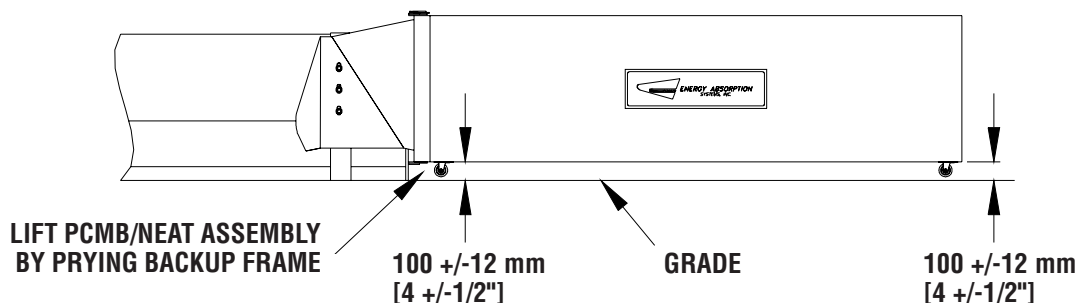

Figure 10
Step 8: Checking Installation Height (See Figure 10)